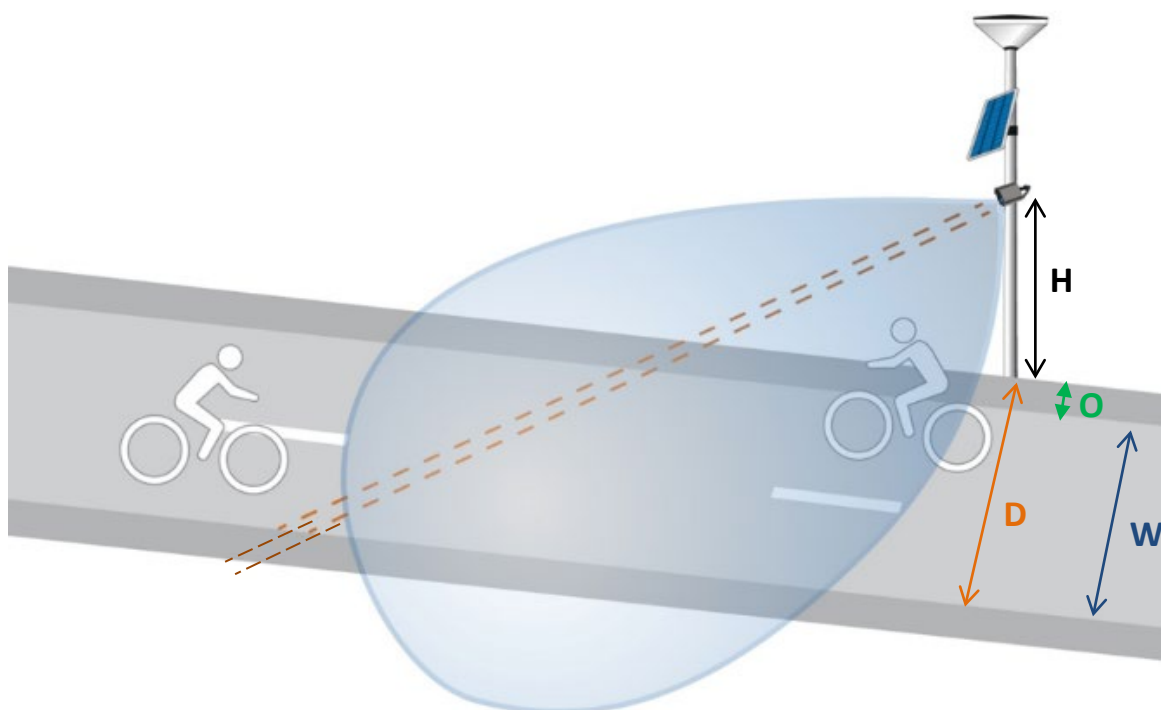

Figure 4: installation, general overview
- Max. measurement distance of the sensor: about 6 m (angle 45°). This results in a maximum width "D" of 4 m, see Figure 4.
The maximum detection Distance D as shown in Figure 4 is 4 m. At an Offset value of zero meter, the maximum width of the bicycle path is equal to 4 meters, which is in such particular case equal to the maximum Distance D.